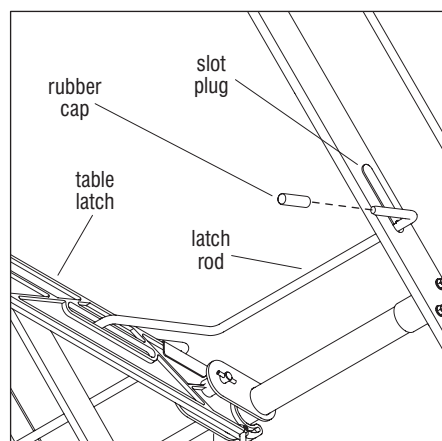

Figure 3
3. Where the latch rod goes through the slot plug, remove the rubber cap from the latch rod handle using your finger tips (Figure 3).